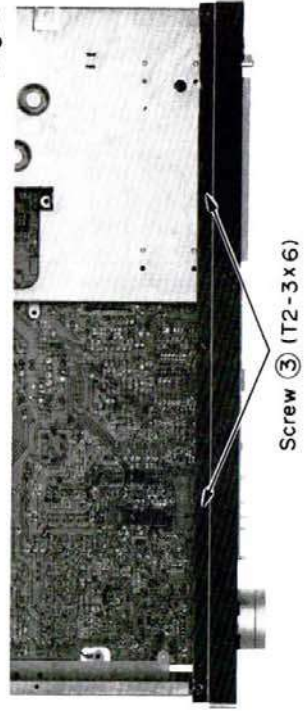

Fig. 4
- 6) Remove the 2 screws ③ shown in Fig. 4.